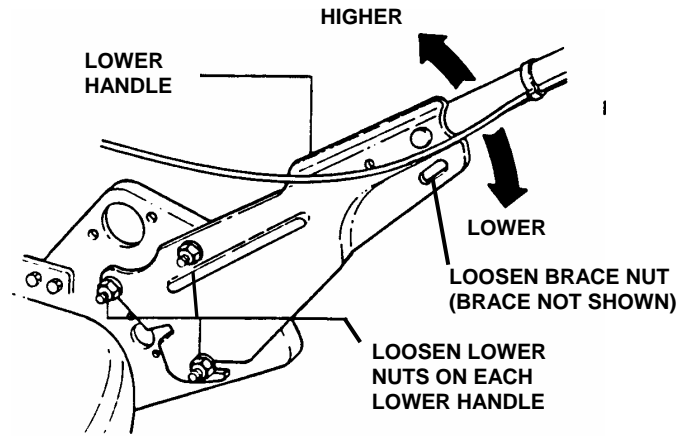

FIGURE 2.6
1. Loosen the three lower nuts on each lower handle as shown in Figure 2.6.
2. Loosen the one nut securing each upper brace to the lower handle. See Figure 2.6.